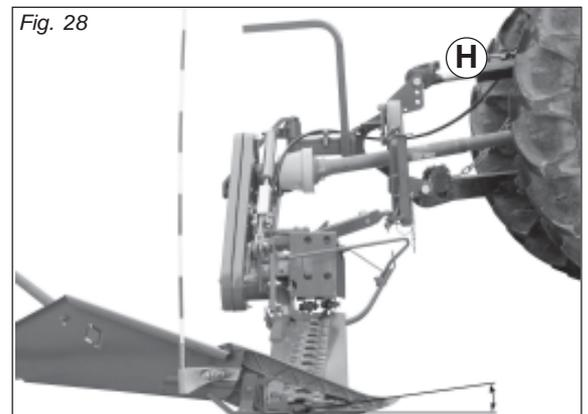

Fig. 28
- Adjust inclination of the cutting arm teeth using tie rod (H, Fig. 28).